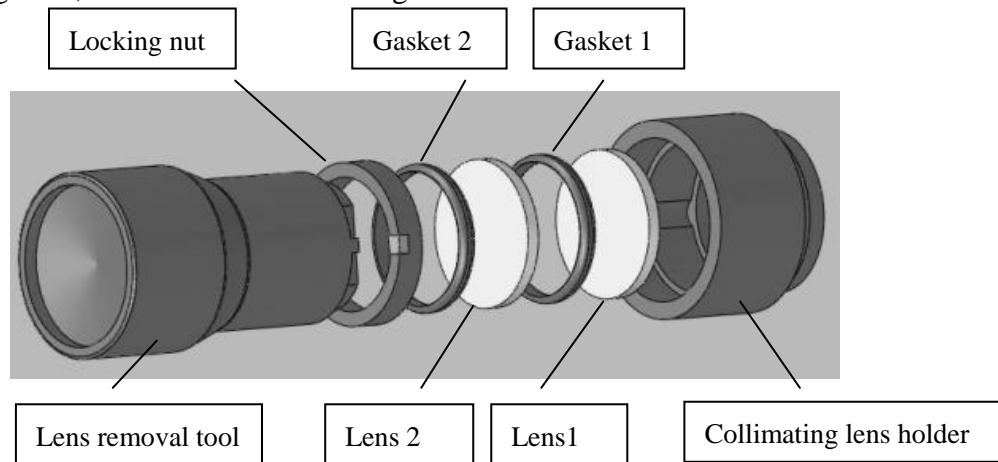

Fig.14
4. Gently unscrew the locking nut using lens removing tool, and then take out lens and gasket, which is as shown in Fig.14